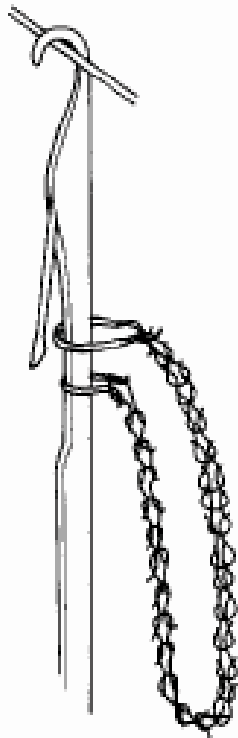
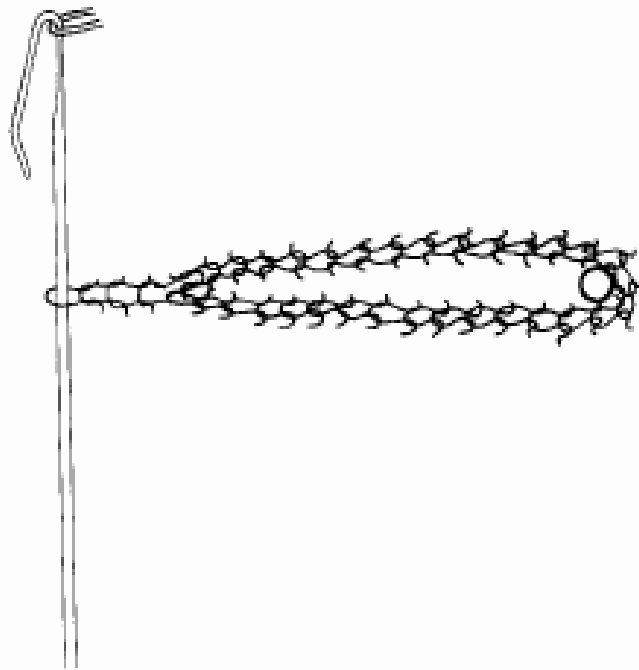

Fig. 16.1 Turned welt on latch needle machine.
Fig. 16.2 Turned welt on bearded needle machine.
- The *inturned welt* is used particularly for manufacturing ladies' hose and sports socks on circular machines (Fig. 16.1) and some knitwear on Cottons Patent machines (Fig. 16.2).